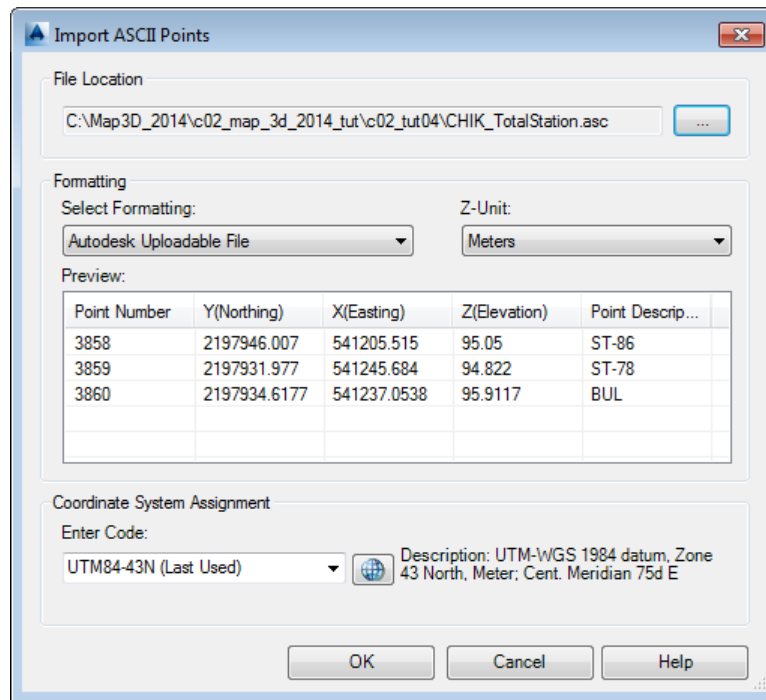

Figure 2-34 The **Import ASCII Points** dialog box displaying the preview of the selected data
- Next, choose the **OK** button; the **Import ASCII File** dialog box is closed. Notice that the path of the selected file is displayed in the **File Location** edit box of the **Import ASCII Points** dialog box. Also, the preview of the selected data is displayed in the **Preview** area, as shown in Figure 2-34.